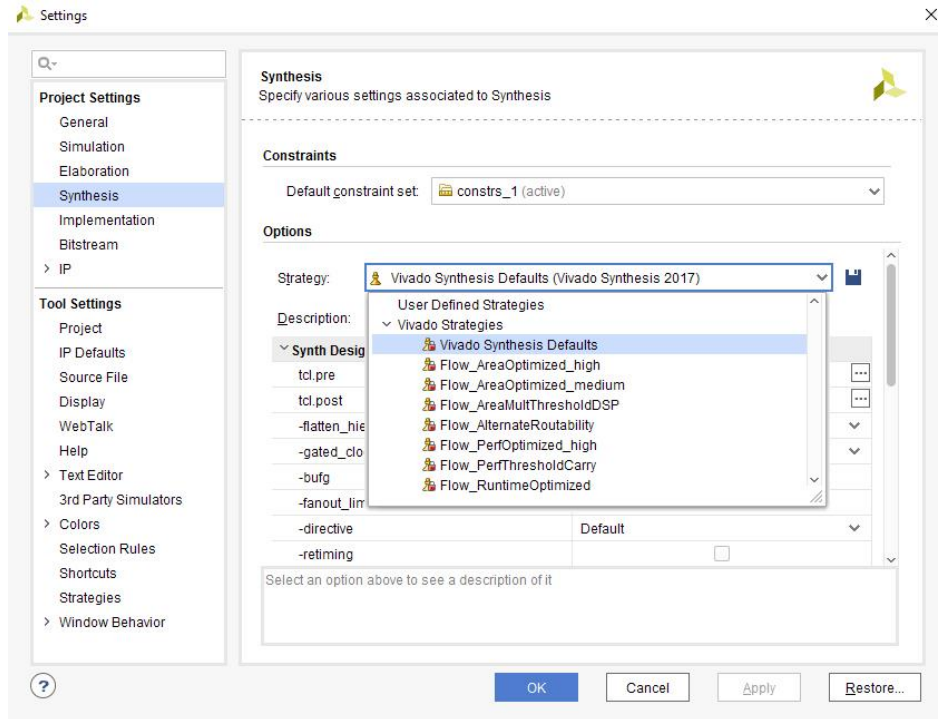

Figure 16
7. In **Options** → **Strategy** we can view and select from the drop-down menu a predefined synthesis strategy to use for the synthesis run; there are different preconfigured strategies, as shown in Figure 16; in our case, leave default options unchanged